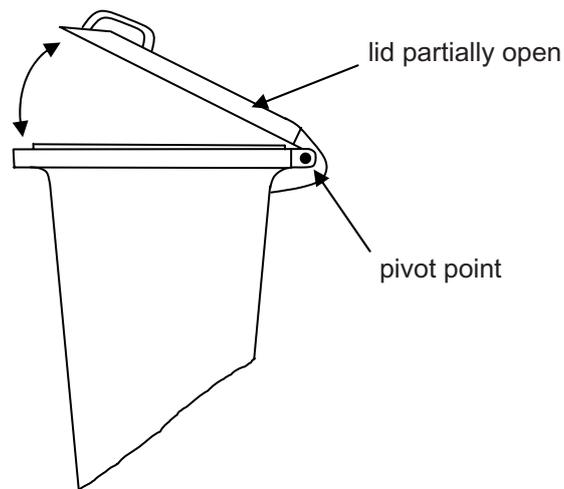

Fig. 6(f)(i)
- (f) (i) Fig. 6(f)(i) shows the wheelie bin with the lid partially open.